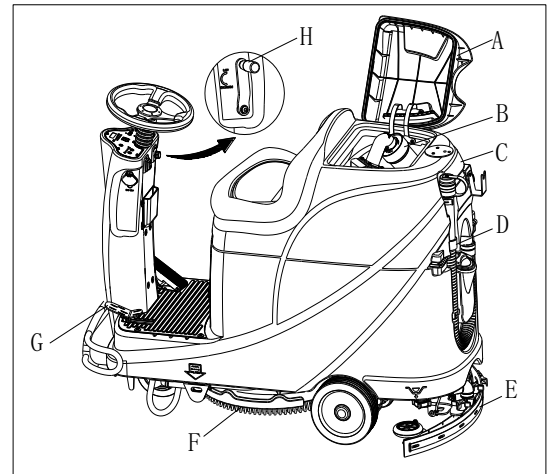

Figure 13
An automatic float shut-off system (B, Figure 13) blocks the vacuum system when the recovery water tank (C) is full. The vacuum system deactivation is signaled by a sudden increase in the vacuum system motor noise frequency, also the floor has not dried.
When the recovery water tank (C, Figure 13) is full, empty it according to the following procedure.